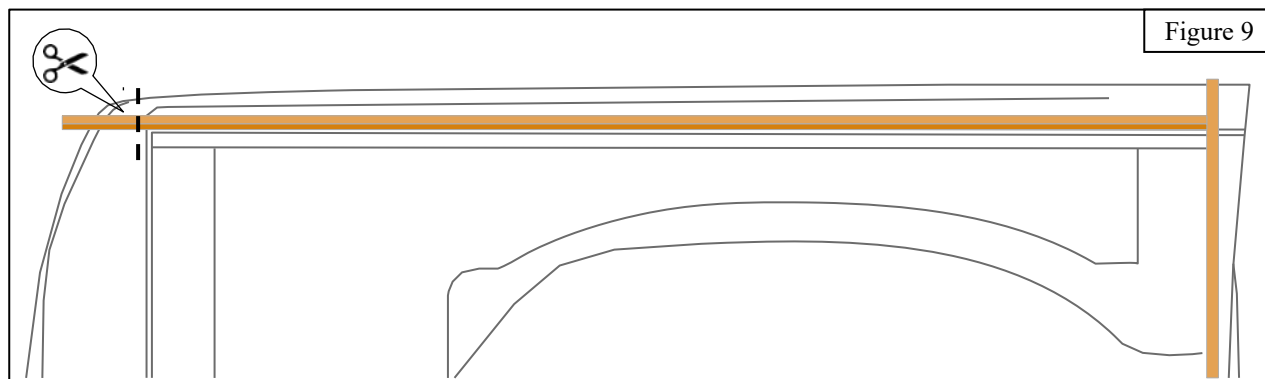

Figure 10
4. Measure approximately 4 1/4" (108 mm) from the side of the bed, and 2" (50mm) up from the base of the bed. This will be done on both sides of the bed. Use the included 19MM Hole Saw (**Item 40**) to cut the front drain tube holes. The holes will be drilled into the raised vertical ribs at the front of the bed. See **Figure 10**.